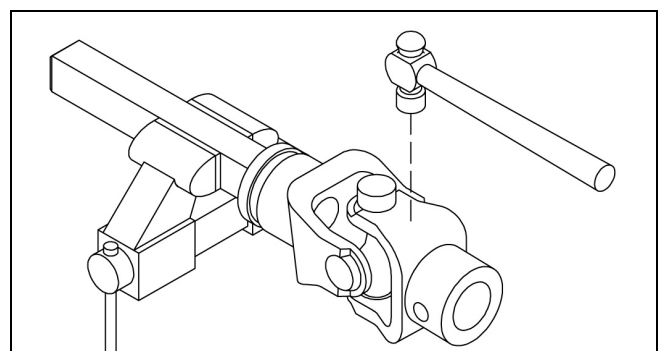

Figure 22. Remove Cups
2. With snap rings removed, support drive in vise, hold yoke in hand and tap on yoke to drive cup up out of yoke. See Figure 22.